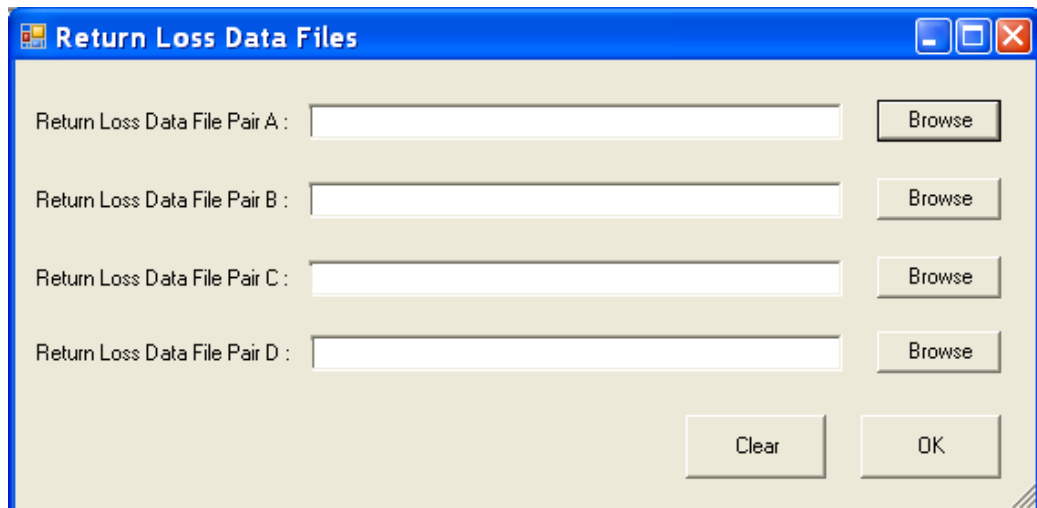

Figure 34 Data file selection pop-up box
- 12 A pop-up box will appear where you can browse the data file and assign it to each pair under test, as shown in Figure 34. Select the data file and click OK.